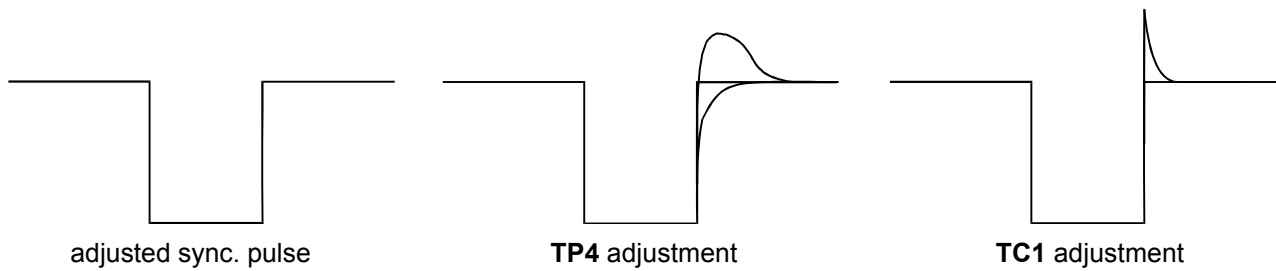

Fig. 1: Sync. pulse correction
- (13) Switch-on the video monitor.
- (14) Check the positive video input signal between **A** and \wedge .
- (15) Check the negative video input signal between **B** and \wedge .
- (16) Set the output video signal to 1 Vpp - trimmer **TP3**.
- (17) Do the fine adjustment with **TC2**, **TC3**, **TC4**, correct the sync. pulse with **TP4**, **TC1**. (**Fig. 1**)
- (18) If adjustment with **TC2**, **TC3**, **TC4** is not possible, switch-on **SW13**, **SW14**, **SW15** and do the fine adjustment.
- (19) Set the minimal disturbance - trimmer **TP2**.
- (20) Correct the output video signal to 1 Vpp - trimmer **TP3**.
- (21) If there is too much noise in the signal (gain adj. > 50 dB at 5 MHz), set the pre-emphasis to **+10 dB** in the video twisted-pair transmitter.
- (22) If $a < 6$ dB (short distance), **SW1-SW15** switch-off, **SW16** switch-on, jumper **J1** set to **-6 dB** and do the fine adjustment.